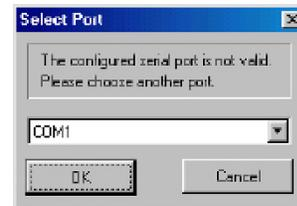

Figure 9: Select the COM port
6. Open the interface software and use the drop-down menu to select the appropriate COMM PORT as shown in *Figure 9*. Then select **OK**.